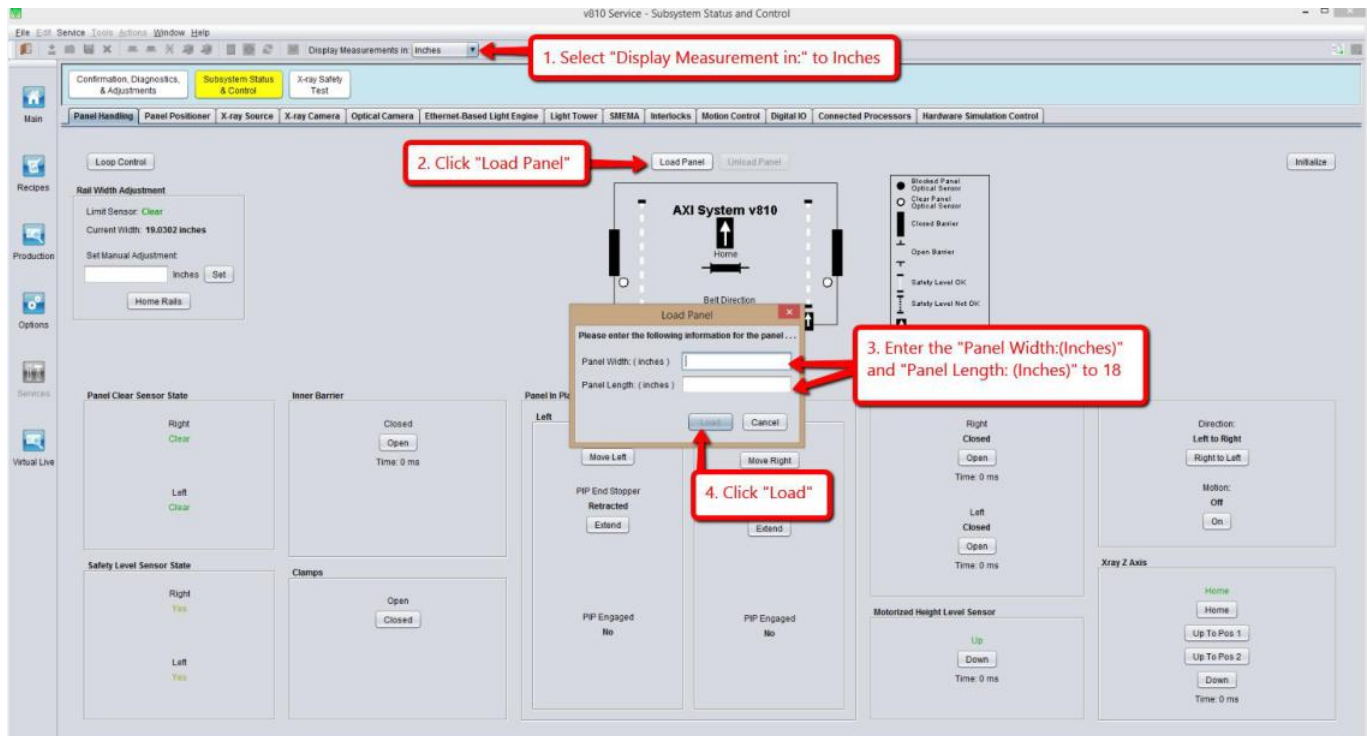

Figure 3 Panel Handling (Load Jig)
4. Set the parameters as shown in the Figure 3 and click Load Panel.